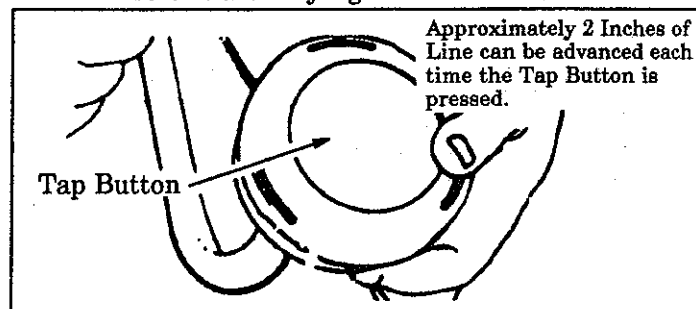

Figure 6
- Press the Tap Button and pull a minimum of 4 inches of Line from the Trimmer Head. Figure 6. Approximately 2 inches of line can be advanced each time the Tap Button is pressed.